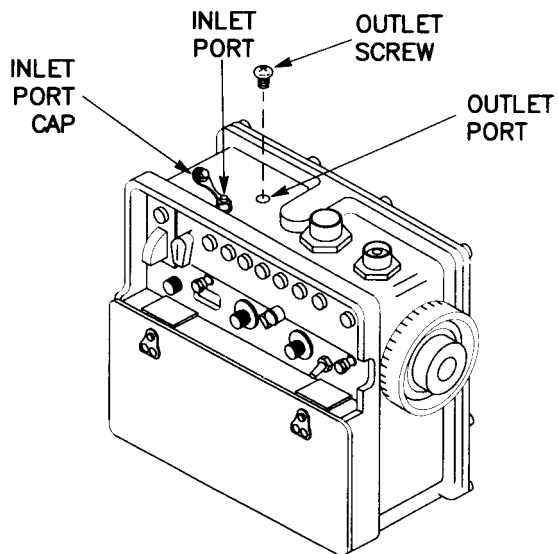

Figure 3-7 Gunner's Control Unit
d. Gunner's Control Unit (fig. 3-7). Refer to para 3-5.a. for procedures.